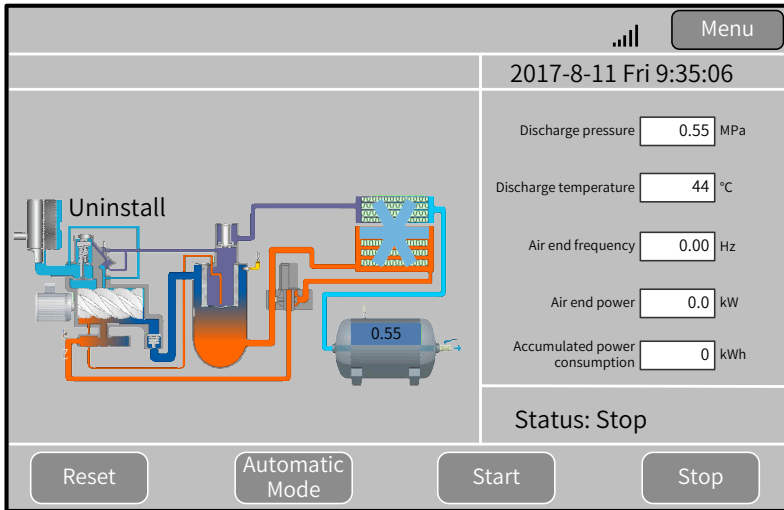

Figure 3-3 HMI main page (example)
- 7) Touch "Start" on the homepage shown in Figure 3-3 to start the air compressor. Check that the operating current and temperature are within the normal range, solenoid valve status is correct, and pressure and temperature changes are normal.